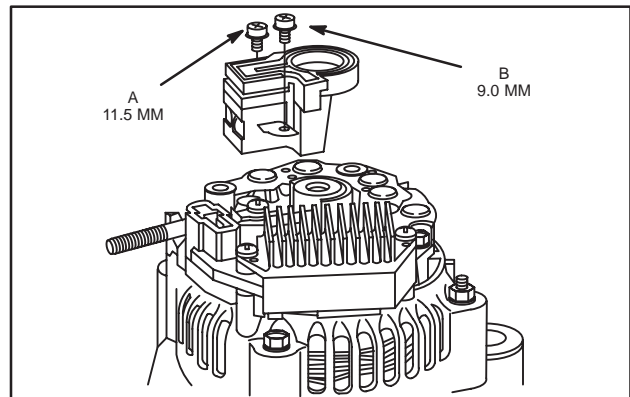

Fig. 23 – Remove Brush Retainer
4. Remove two screws, then brush retainer assembly, Fig. 23.